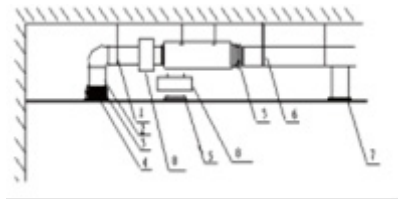

Figure 7: Arrangement for Rectangular Air Supply Ducting
- Figure 7 shows the correct arrangement for rectangular air supply ducting. Table 2 indicates the parts required. Duct work should be installed in accordance with relevant standards and codes.